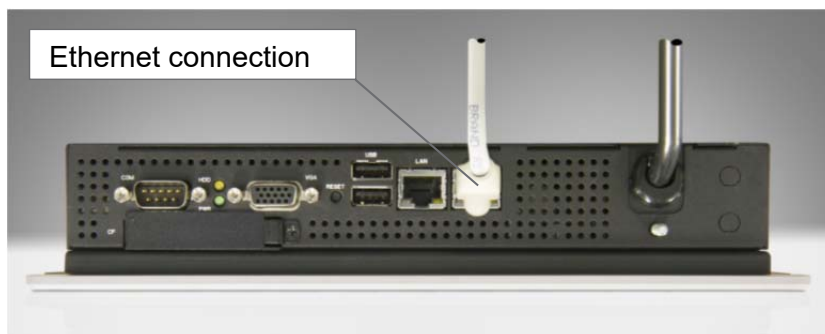

Figure 4: HMI LAN Port
- 1) The ethernet connection on the HMI is located on its lower face as shown in Figure 4. To gain access to the connection, open or remove any enclosure panels as appropriate.